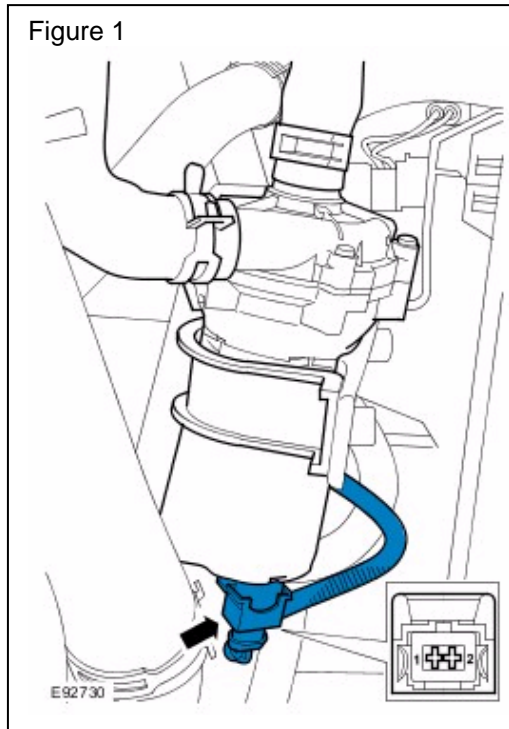

Figure 1
1. Release the connector locking tab and disconnect connector C3006 from the coolant pump (Figure 1)